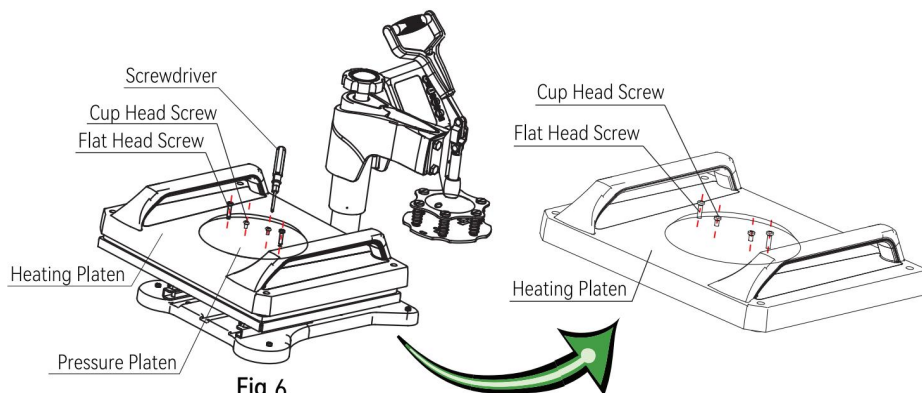

Fig 6
6. Place the pressure platen flat on the heating platen, align it with the hole. Take 4 fat head screws and tighten them with a screwdriver. Take 2 cup head screws and lock them to the hole in the middle of the pressure platen. At this time, do not lock the cup head screws: reserve 5-7mm for the next installation step (as shown in figure6).